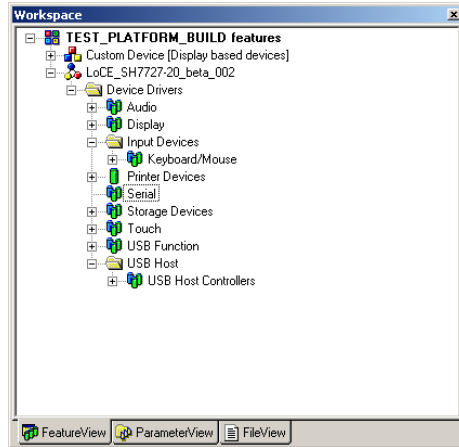

Figure 21: Features in the Workspace Window
21. Note all of the *features* for this platform are listed under the BSP name in the 'Workspace' window. (If your platform is missing any of the features as displayed in Figure 21 (below), right click on the missing feature in the Catalog and click 'Add.')